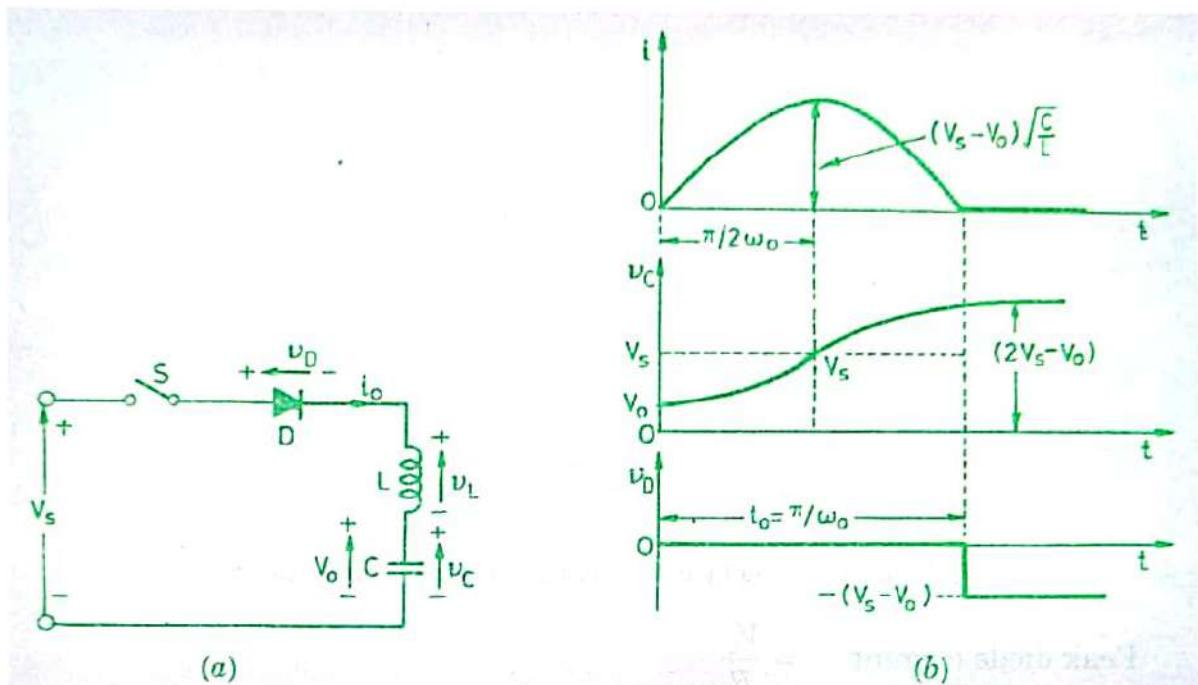

Fig. 3.6. Pertaining to Example 3.2 (a) circuit diagram and (b) waveforms.
**Example 3.2.** In the diode and LC network shown in Fig. 3.6 (a), the capacitor is initially charged to voltage  $V_0$  with upper plate positive. Switch  $S$  is closed at  $t = 0$ . Derive expressions for current through and voltage across  $C$ .
**Solution.** When switch  $S$  is closed, KVL for Fig. 3.6 (a) gives